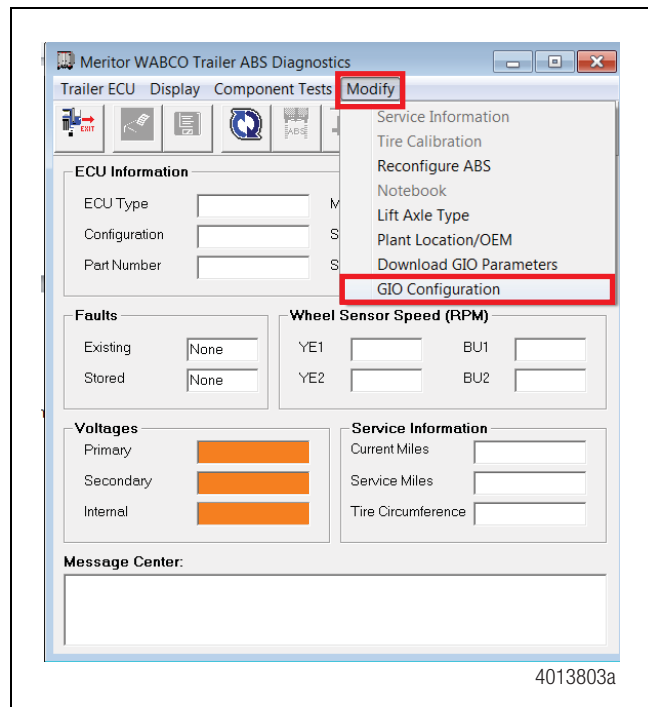

Figure 5
3. From the top menu bar, go to the **Modify** pull-down menu and select **GIO Configuration**. Figure 5.